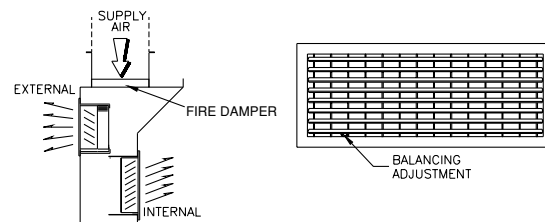

fig. 25
1. Grill Registers [Refer to fig. 25]